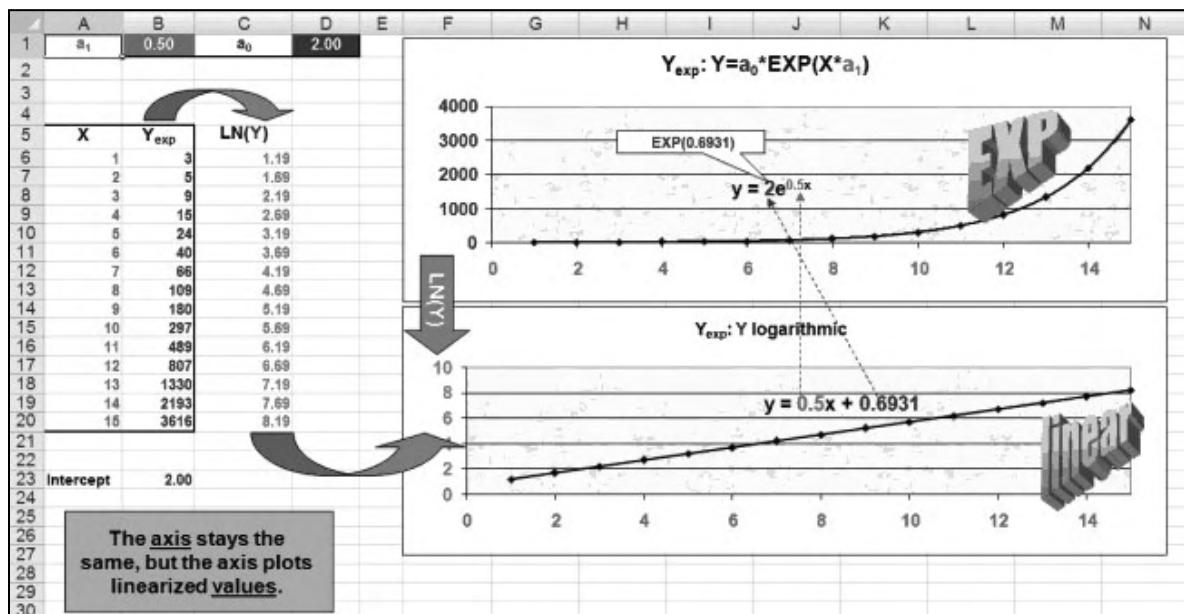

Figure: 4.15
- Exponential: Figure 4.15 has an exponential curve in its top graph. In order to linearize an exponential curve, you must apply the `LN` function to the y values from column B—which has been done in column C. The bottom graph uses the linearized values from column C on its y axis. Notice how the slope and intercept match again between the exponential and linear versions of regression, provided that you “unlinearize” the linear slope first by using the function `EXP`.